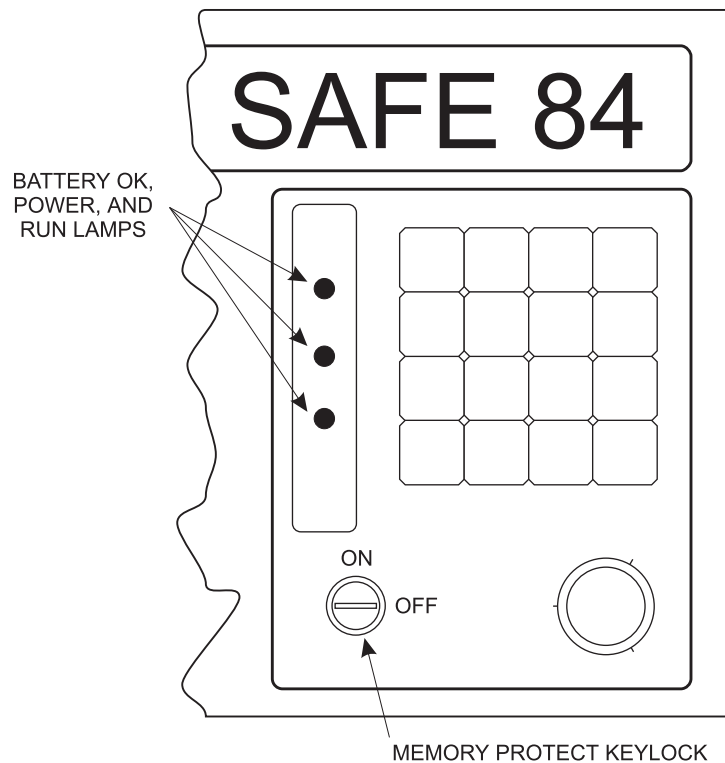

Figure 5-4
9. Turn off the MEMORY PROTECT KEYLOCK. See *Figure 5-4*.